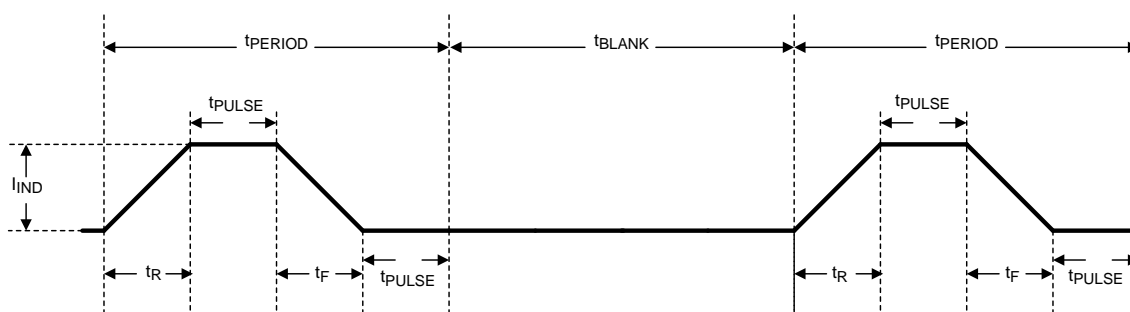

Figure 23. Message Indicator Timing Diagram
2. Number of periods (PERIOD #). This has 8 steps. A period (t_{PERIOD}) is found by $t_{\text{PERIOD}} = t_{\text{R}} + t_{\text{F}} + 2 \times t_{\text{PULSE}}$. (see Figure 23 for indicator timing).